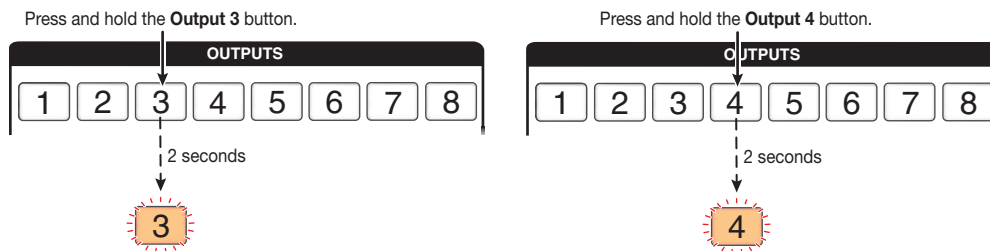

Figure 68. Muting Outputs
4. **One at a time**, press and **hold** the buttons for the outputs to be muted, until each button begins to blink (approximately 2 seconds). The video and audio signals are muted for all the selected outputs (outputs 3 and 4 in the example in figure 68).